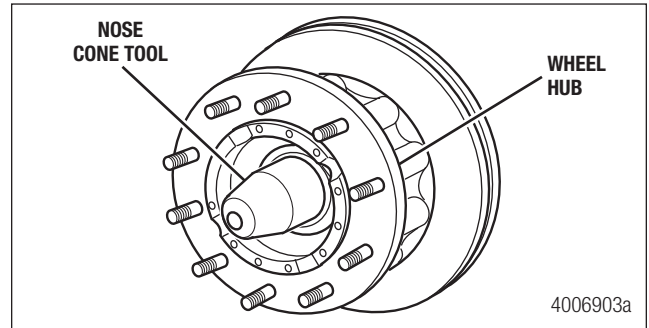

Figure 6.7
- For models with CTIS, install the nose cone tool (part number 3256-C-1303) to facilitate hub removal and protect the spindle and CTIS seals. Refer to Nose Cone (3256-C-1303) on page 73. Figure 6.7.